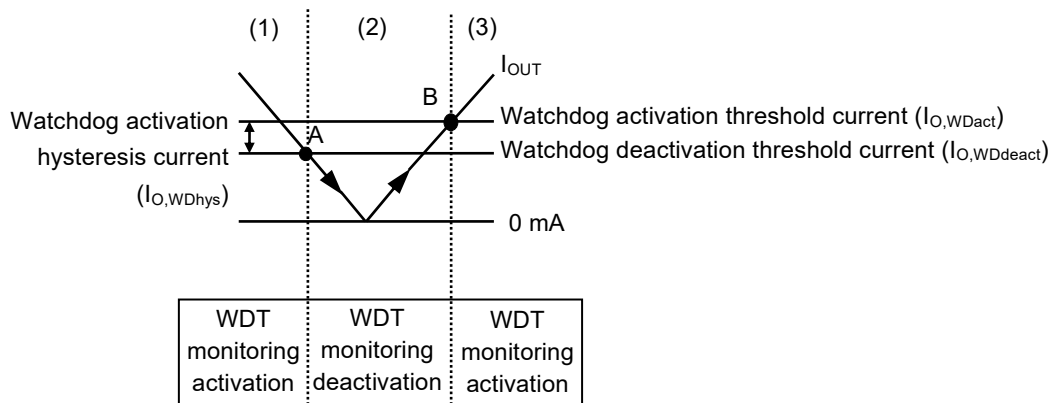

Figure 50 Autonomous Watchdog Operation Function
- (1) When I_{OUT} of the regulator is the watchdog activation threshold current ($I_{O,WDact}$) or more, the WADJ pin voltage (V_{WADJ}) is higher than the reference voltage (V_{ref}), and the output of the comparator (C1) is "H". At this time, the watchdog timer is activated.
- (2) When I_{OUT} decreases to the watchdog deactivation threshold current ($I_{O,WDdeact}$) (point A in **Figure 50**) or less, V_{WADJ} decreases to V_{ref} or less and the output of C1 is "L". At this time, the watchdog timer deactivates the monitoring. Even if I_{OUT} increases, the watchdog timer continues the monitoring deactivation when I_{OUT} is within less than $I_{O,WDact}$.
- (3) If I_{OUT} further increases to $I_{O,WDact}$ (point B in **Figure 50**) or more, V_{WADJ} increases to V_{ref} or higher and the output of C1 is "H". And then, the watchdog timer initiates the monitoring activation.